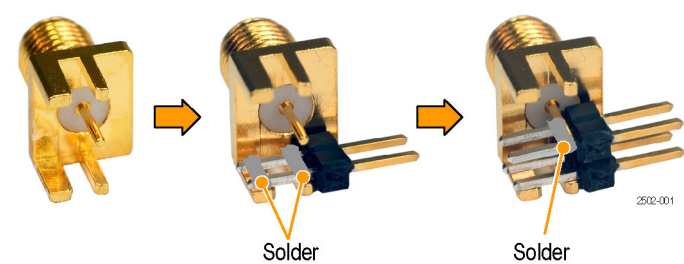

Figure 4: Solder square pins to the SMA connector
1. Arrange one SMA connector as shown. (See Figure 4.)